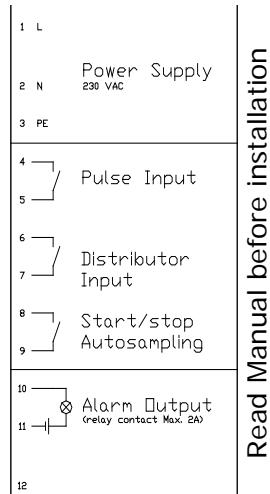

Fig. 2.3d
- Connect the power supply cable(230VAC/50Hz) to contacts 1 (ground), 2 (live) and 3 (null) of the terminal (see sticker in fig.2.3d).
Optional for Efcon® systems are connectors on the side available. Connect the pins of the connectors according fig 2.3d. Places the connectors with its cable inlet downward to prevent moisture inside the connector.